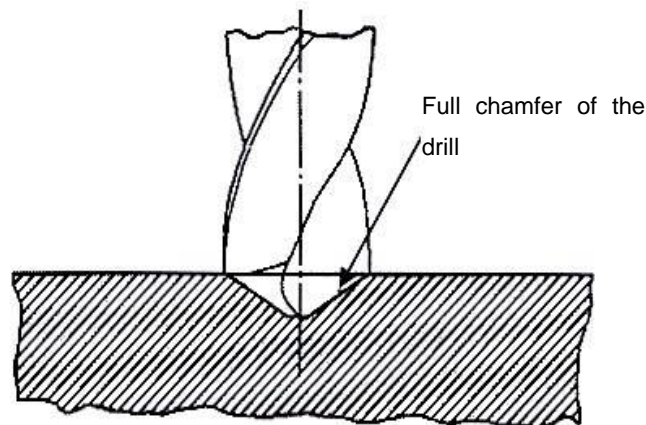

FIG 1.
- E. Drill to the full chamfer of the drill. (Fig 1)